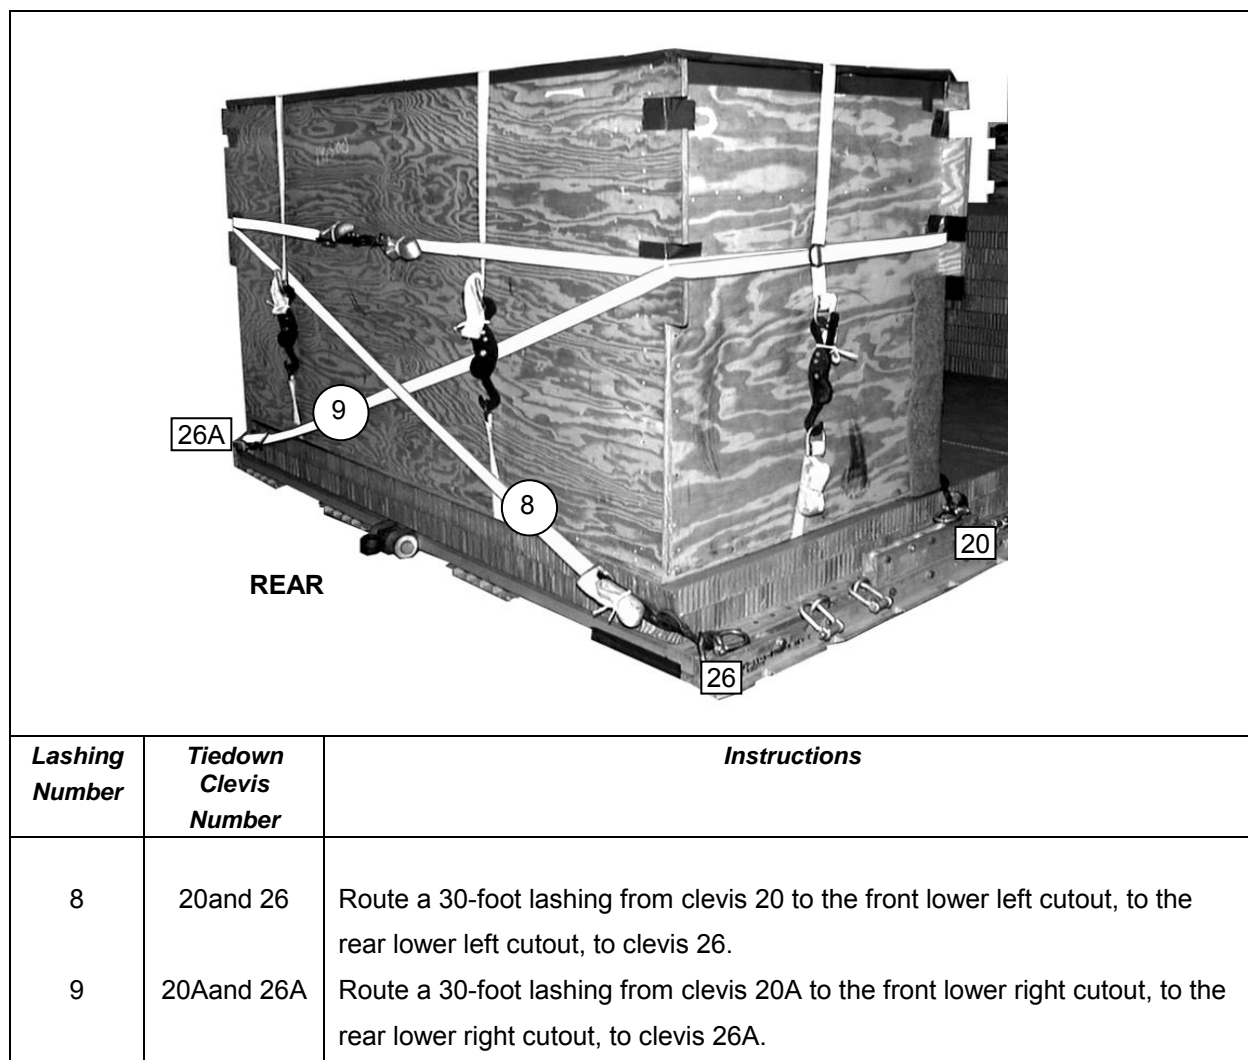

Figure 20-19. Lashings 8 and 9 Installed
- Lash the rear equipment box to the platform as shown in Figures 20-19 through 20-21.